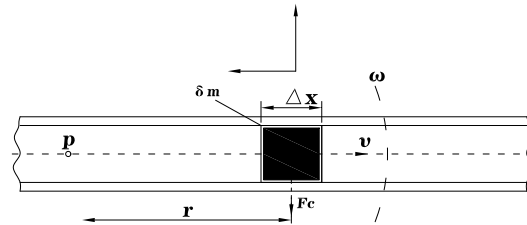

Figure 1.1
If a pipe is rotated around a point (P) while liquid is flowing through it (toward or away from the center of rotation), that fluid will generate an inertial force, with reference to Figure 1.1:
The force generated by tangential acceleration is Coriolis force, its value is equal to $F_c = 2\omega v \delta m$. In figure 1.1 fluid $\delta m = \rho A \times \Delta X$, So Coriolis force can be expressed as: